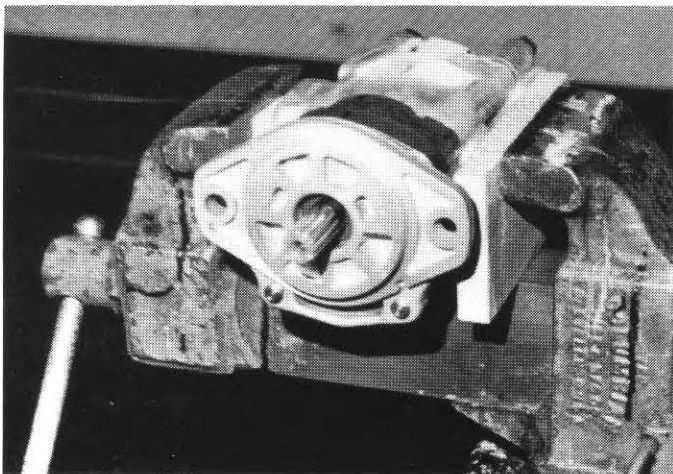

FIG. 2
3. Place the pump in a machinist vise. Protect the pump surfaces with wood blocks or heavy cardboard placed between the pump and vise jaws. (Fig. 2)